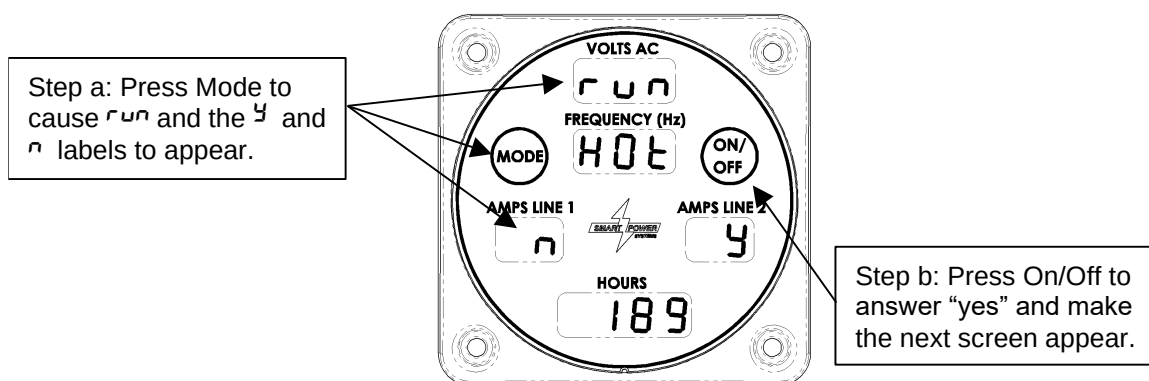

Figure 21 – Hot Oil Override Display
- From the Normal mode display, press Mode, as if you wanted to display the oil temperature. The screen shown in Figure 21 will be displayed instead, asking if you want to "Run hot." This screen will also be displayed if you attempt to start the generator with the condition present.